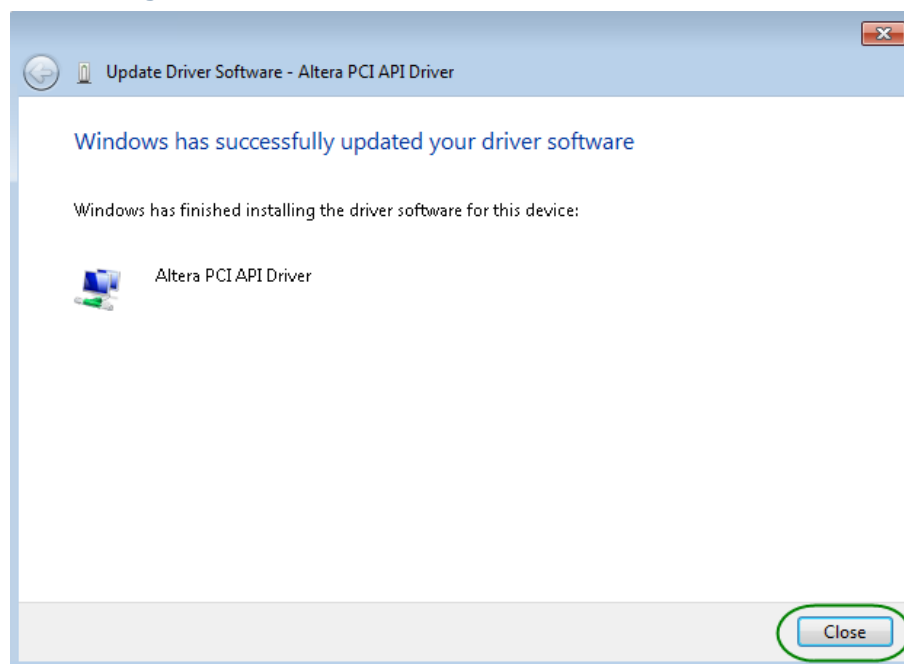

Figure 7 Click Close when the installation of PCI Driver is complete
11. When the driver is installed successfully, the successfully dialog will appears, as shown in **Figure 7**. Click the **Close** button.